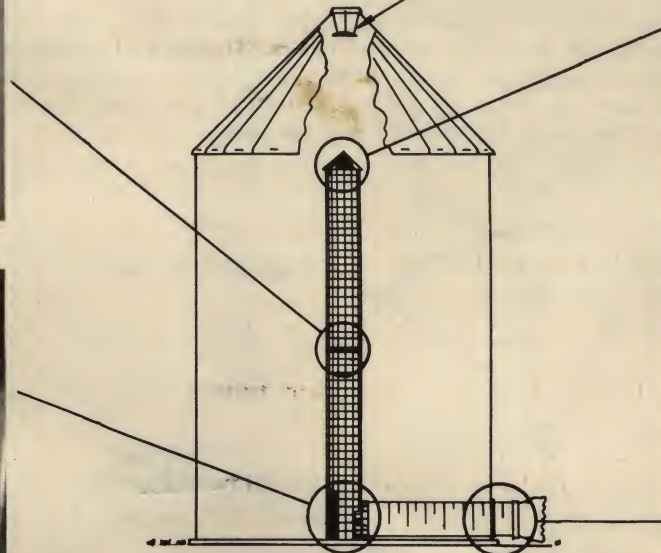

FIG. 13
2. No. 116016, Cap for Jumbo Ventilator. Fasten cap to ventilator using 2 116017 clips and 4— $\frac{3}{8}$ " dia. x $\frac{7}{8}$ " bolts and nuts as shown in Fig. 13.